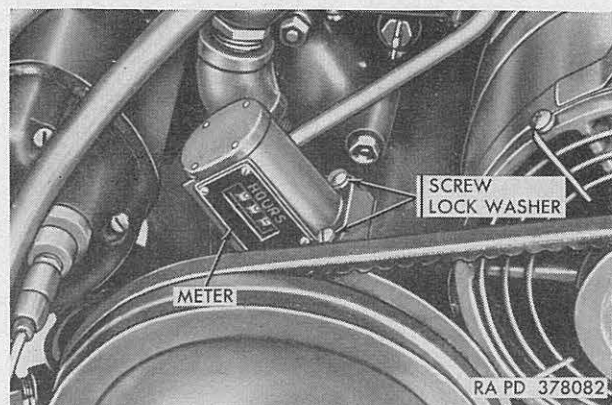

Figure 11. Hour meter.
- (1) Unscrew four screws with lockwashers securing hour meter (fig. 11) to accessory drive bracket and remove hour meter and gasket.
- (2) Position gasket and hour meter on accessory drive bracket (fig. 11) with face of meter toward front of engine (rear of vehicle) and secure with four No. 10-32 x  $\frac{7}{8}$  roundhead screws and lockwashers.